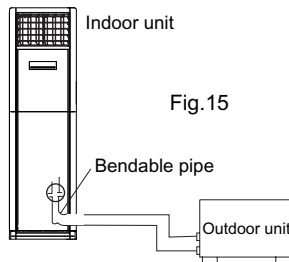

Fig.15
1. Both of the indoor and outdoor units adopt flare-end connection. Refrigerant pipe as shown below is used to connect indoor and outdoor units. (As shown in Fig.15)